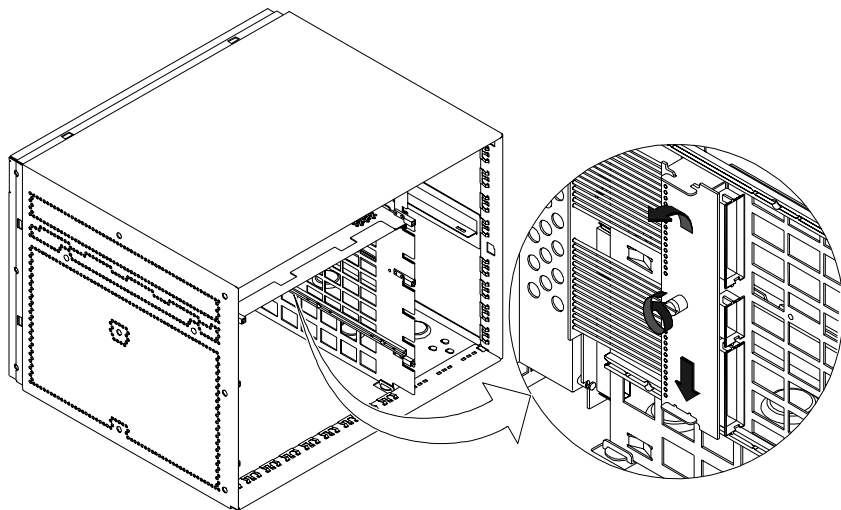

Figure 5-21
- 3 As shown in Figure 5-21, loosen the thumb screw, then slide the power distribution PCA connector (located on wall assembly) down to disconnect from wall.